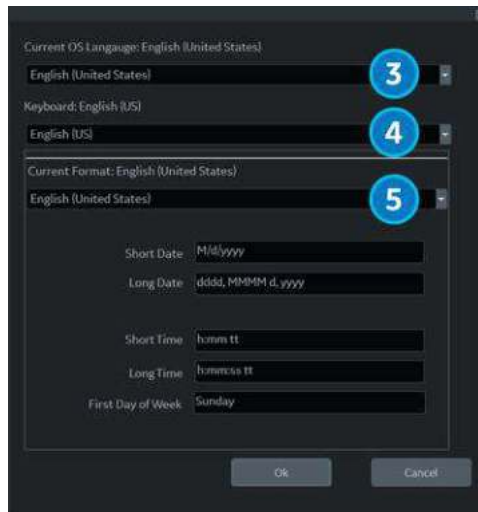

Figure 3-22. Regional Options Dialogue Box
- **Current OS Language** - Select the language from the dropdown menu (3) to match the system language selected in Step 1.
- **Keyboard** - Select the keyboard language preference from the dropdown menu (4).
- **Current Format** - Select the date and time format preference from the dropdown menu (5).
NOTE: *For the United Kingdom, it is recommended to use ENG Language (1), English (United States) OS Language (3), and modify "Current Format" time/date settings to English (United Kingdom) (4) (see Figure 3-22 on page 3-41).*